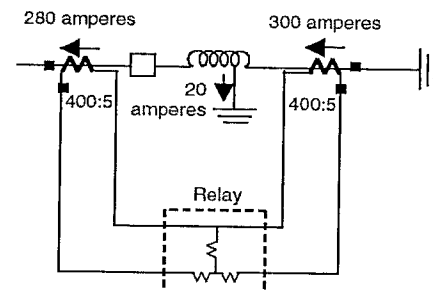

Fig. 2
- c) Figure 2 shows a percentage differential relay applied for the protection of a generator winding. The relay has a 0.1 A minimum pickup and a 10% slope. A high-resistance ground fault has occurred as shown near the grounded-neutral end of the generator winding while it is carrying load with the currents flowing at each end of the generator as shown. Assume that the CT ratios are as shown in the figure and they have no error. Will the relay operate to trip the generator under this condition? Would the relay operate if the generator were carrying no load with its breaker open? Draw the relay operating characteristic and the points that represent the operating and restraining currents in the relay for the two conditions.